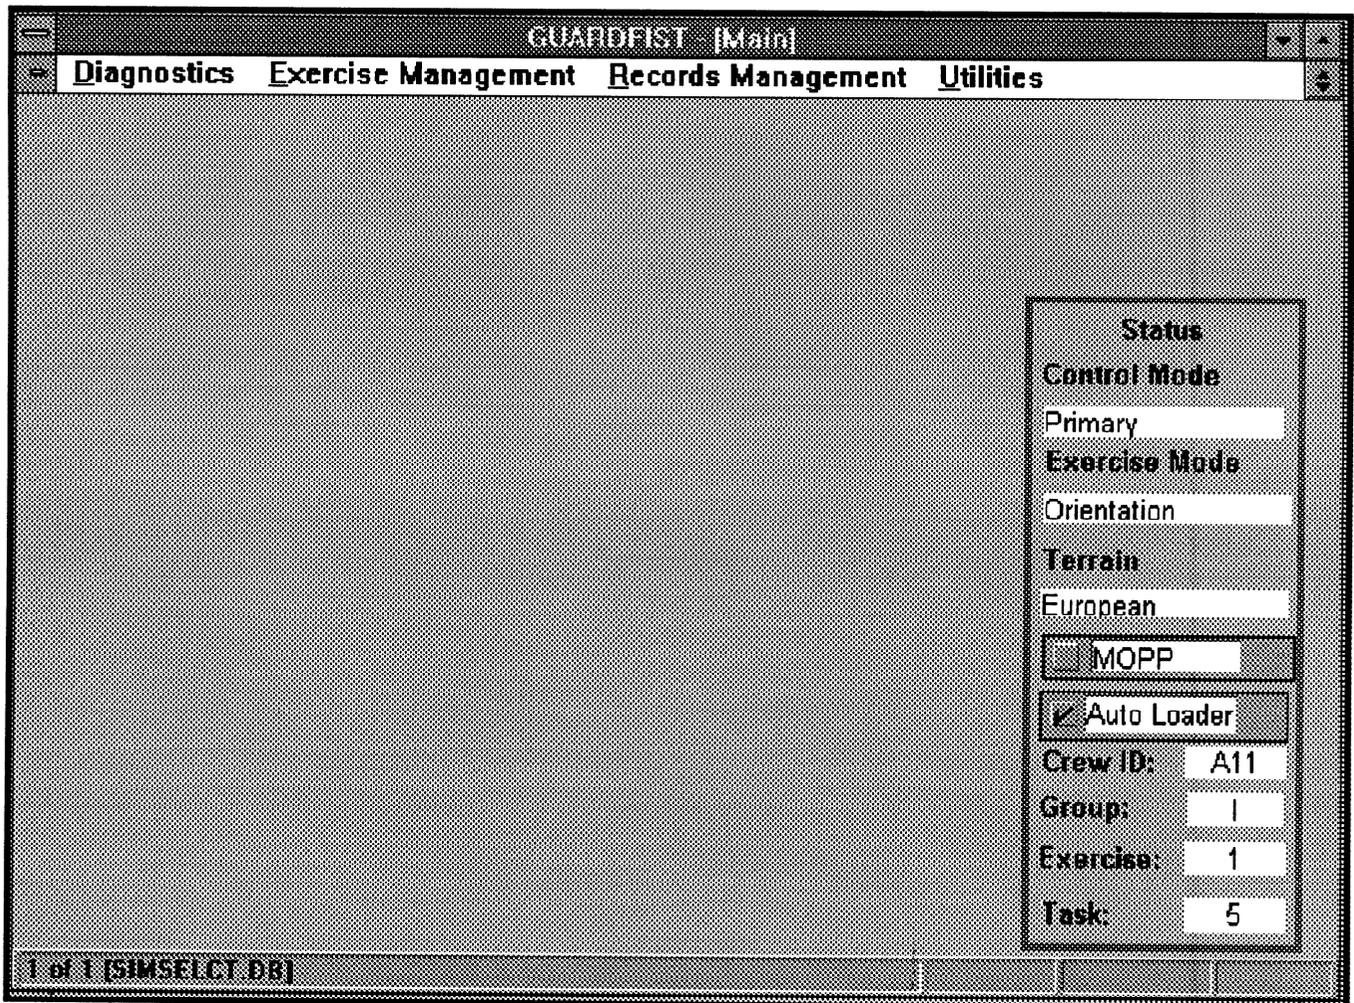

Figure 2-81. AFIST Main Screen
- (12) Once the BIT is complete successfully, the AFIST Main Screen appears on the left screen (Figure 2-81).